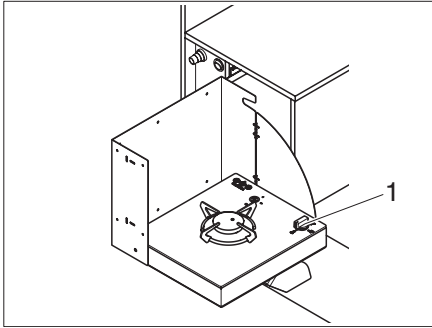

Fig. 77 Control knob
- ▶ Turn the control knob (Fig. 77,1) to the ignition position (large flame).
- ▶ Press the control knob (Fig. 77,1) down and hold it.
- ▶ When the flame burns, hold the control knob (Fig. 77,1) down for 10 to 15 seconds, until the thermocouple keeps the gas supply automatically open.
- ▶ Turn the control knob (Fig. 77,1) to the 0-position. The flame fades.